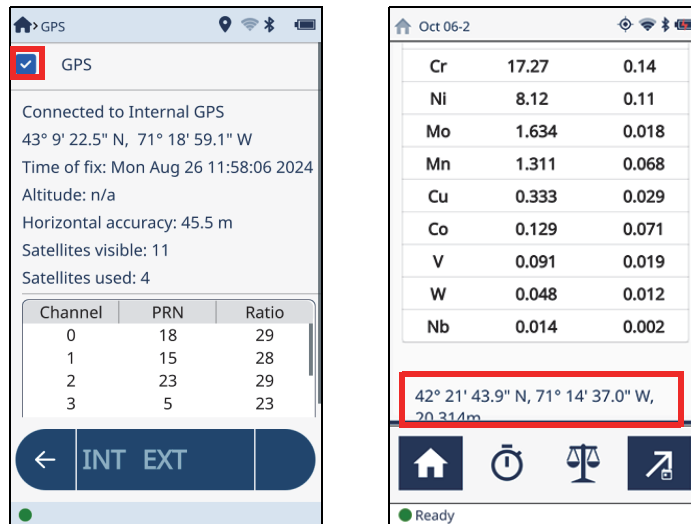

Figure 4-10 GPS screen (left), GPS coordinates in Live View (right)
2. Select the check-box to turn on the GPS (see Figure 4-10 on page 121, left).
The Live View screen will display the current GPS coordinates (see Figure 4-10 on page 121, right).